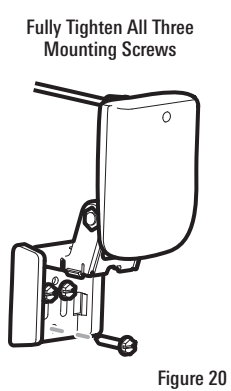

Figure 20
9. Re-position the transducer assembly against the transom of the boat, then hand-install all three screws. Make sure that the transducer location and the pivot angle have not changed, then fully tighten all three mounting screws (Figure 20). **Hand-tighten only!** Snap the pivot back down. If you have performed the preceding procedures correctly, the transducer should be level and at the right height for optimal operation.
3. Re-position the transducer assembly against the transom of the boat, then hand install the first three screws (two on the outside edges and one in the 3rd mounting hole). Make sure that the transducer location and the pivot angle have not changed, then fully tighten all three mounting screws (Figure 20). **Hand-tighten only!**